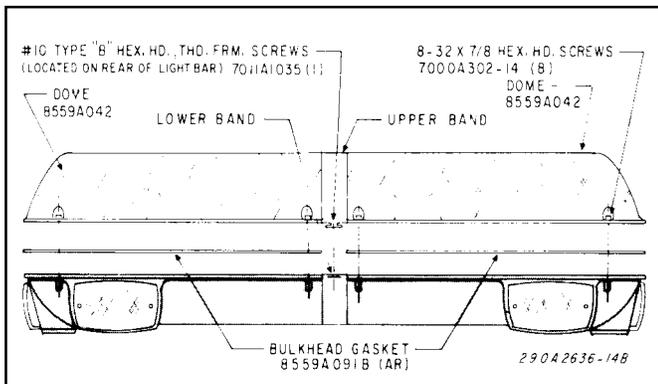

Figure 3.
**1. Dome Removal (see figure 3).**